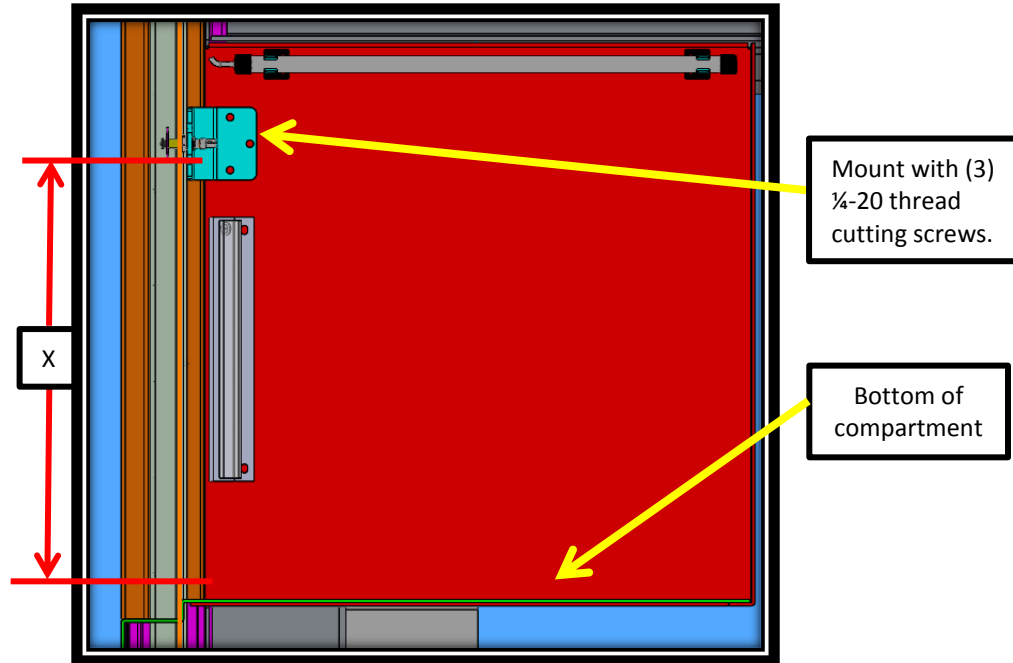
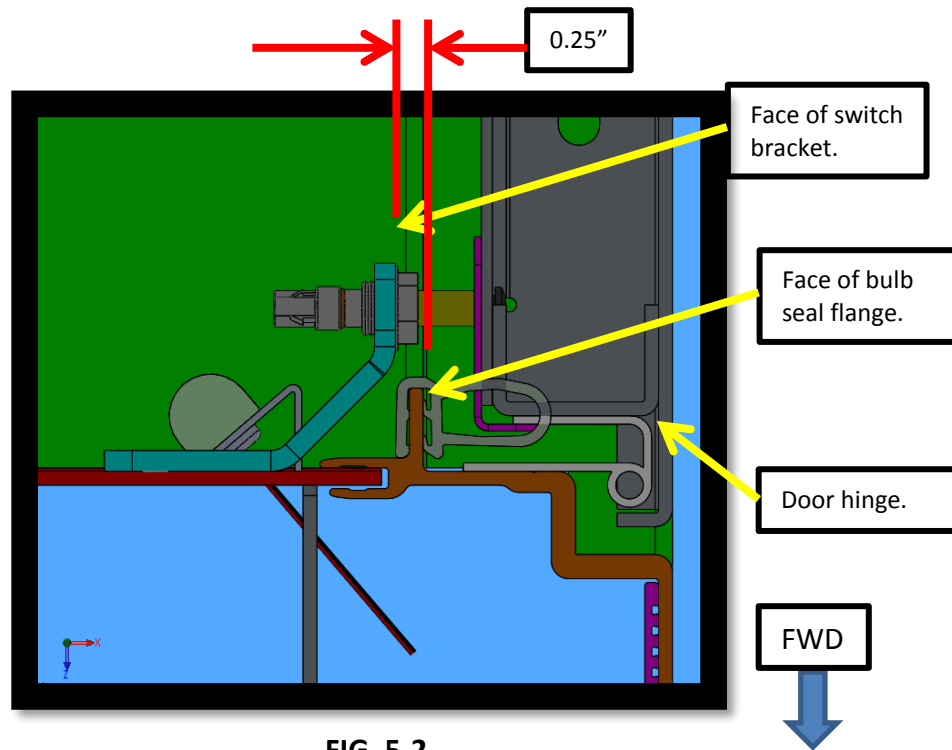

FIG. 5-1
FIG. 5-2
3. Install new switch bracket on the hinge side of the compartment with vertical placement (dimension "X") in a best fit location for compartment options. The outboard face of the bracket should be 0.25" from the outboard face of the bulb seal flange. Refer to FIG. 5-1 and FIG. 5-2.